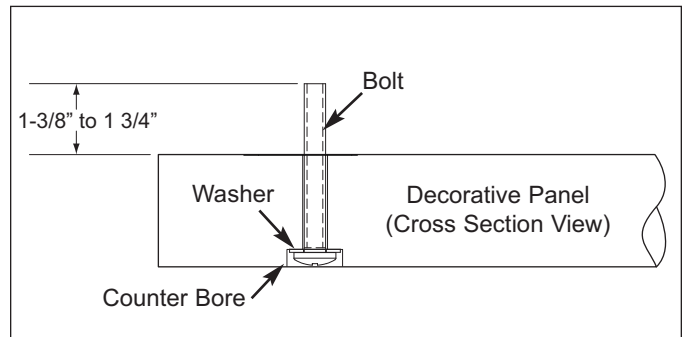

Figure 2. Decorative Panel Prep for Handle
2. Counter bore 5/8" holes to 5/32" deep so that you can completely recess the head of the bolt and washer (See Figure 2).
3. Insert appropriate length bolts (two 1/4" bolts, but may vary depending on panel thickness) with washer(s) through holes into handle (See Figure 2).